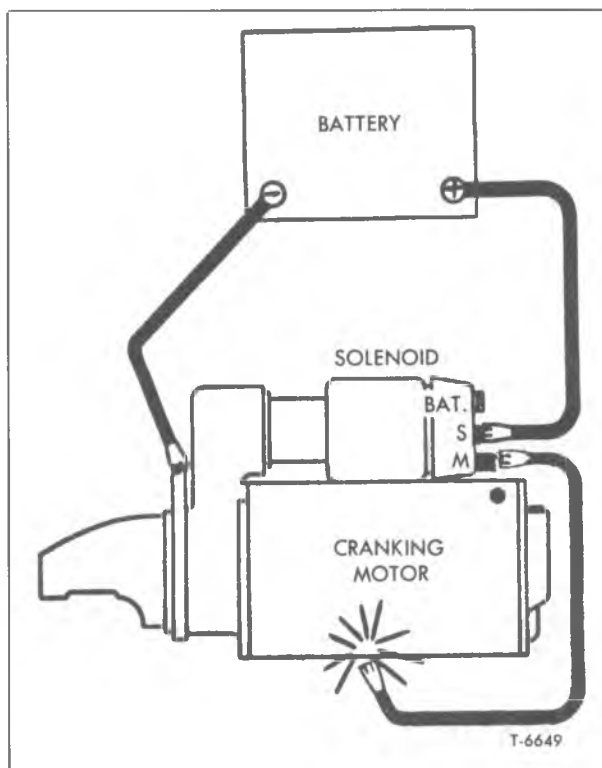

Figure 3—Circuit for Checking Pinion Clearance
1. Connect a voltage source of approximately 6 volts between the solenoid switch terminal (S) and ground.
**IMPORTANT:** DO NOT connect voltage source to ignition coil (R) terminal of solenoid. DO NOT use a 12-volt battery in place of the 6-volt battery specified as this will cause the starter to operate. As a further precaution to prevent motoring, connect a heavy jumper lead from solenoid motor terminal to ground (fig. 3).